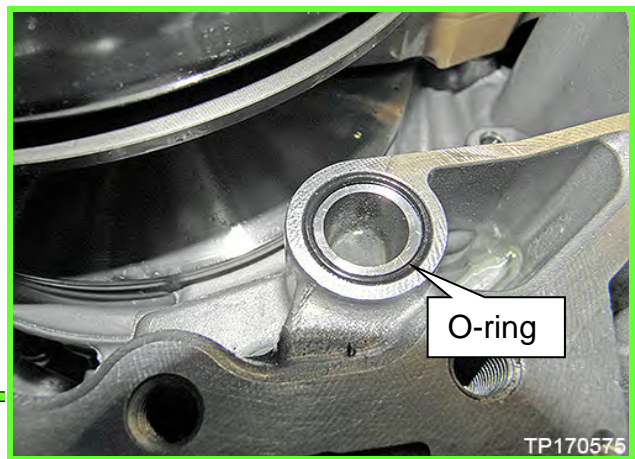

Figure 14E
14. Remove the O-ring from the CVT case (Figure 14E).